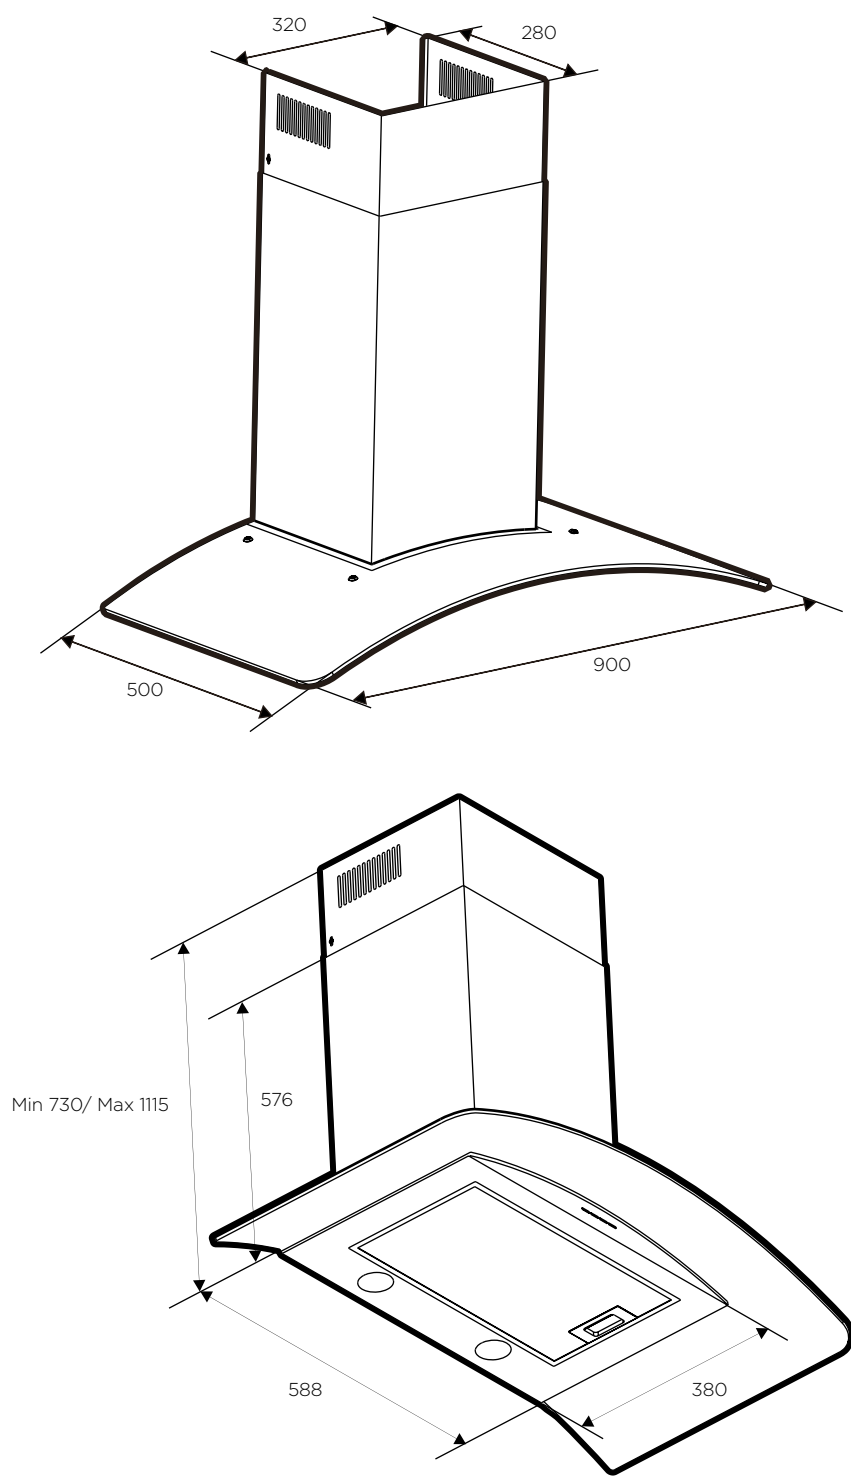

Fig. 4
1. Using a spirit level mark a vertical centre line on the wall where the hood is to be positioned, and a horizontal line at the hood base position. (See Fig. 4, or 5 for relevant model).